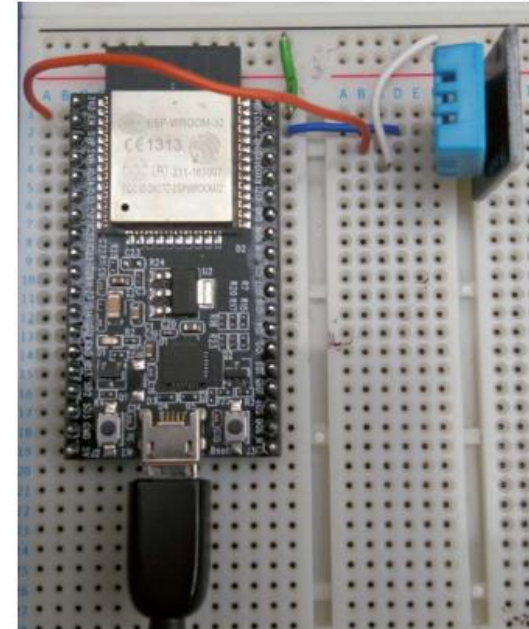

Figure 5.13 Project on a breadboard
- 5 Construction The ESP32 DevKitC board is mounted on a breadboard as shown in Figure 5.13 with the DHT11 sensor chip connected to +3.3 V, GND and GPIO23 of the development board.